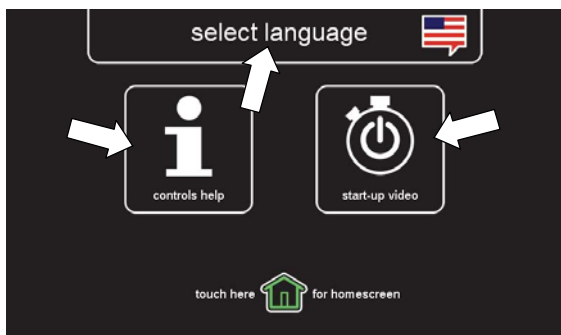

FIG. 47
2.  For first time users, press the help icon on the operator home screen (Figure 44). The help screen, shown below, will allow you to select a different display language, help identify control panel icons and view start-up operator videos (Figure 47).